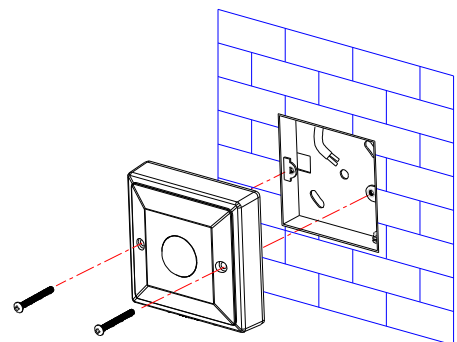

FIGURE 7
- (6) Fit the main body to the wall box and secure it with two fixing screws provided. (FIGURE 7)